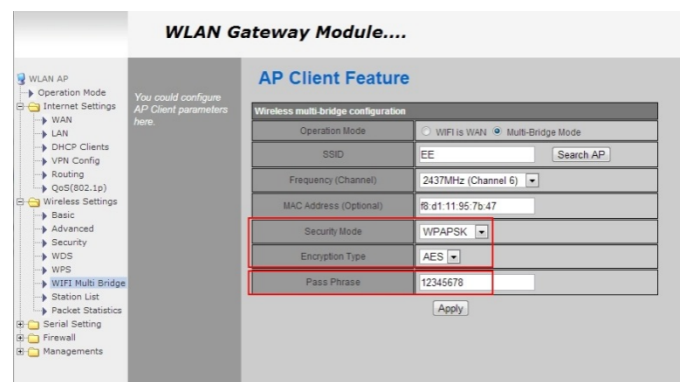

Figure 7.5 – Access point choosing
- 8) Then in **AP Client Feature** window set additional **Encryption and Authentication** parameters for chosen access point. In **Pass Phrase** field enter net password. (View figure 7.5)